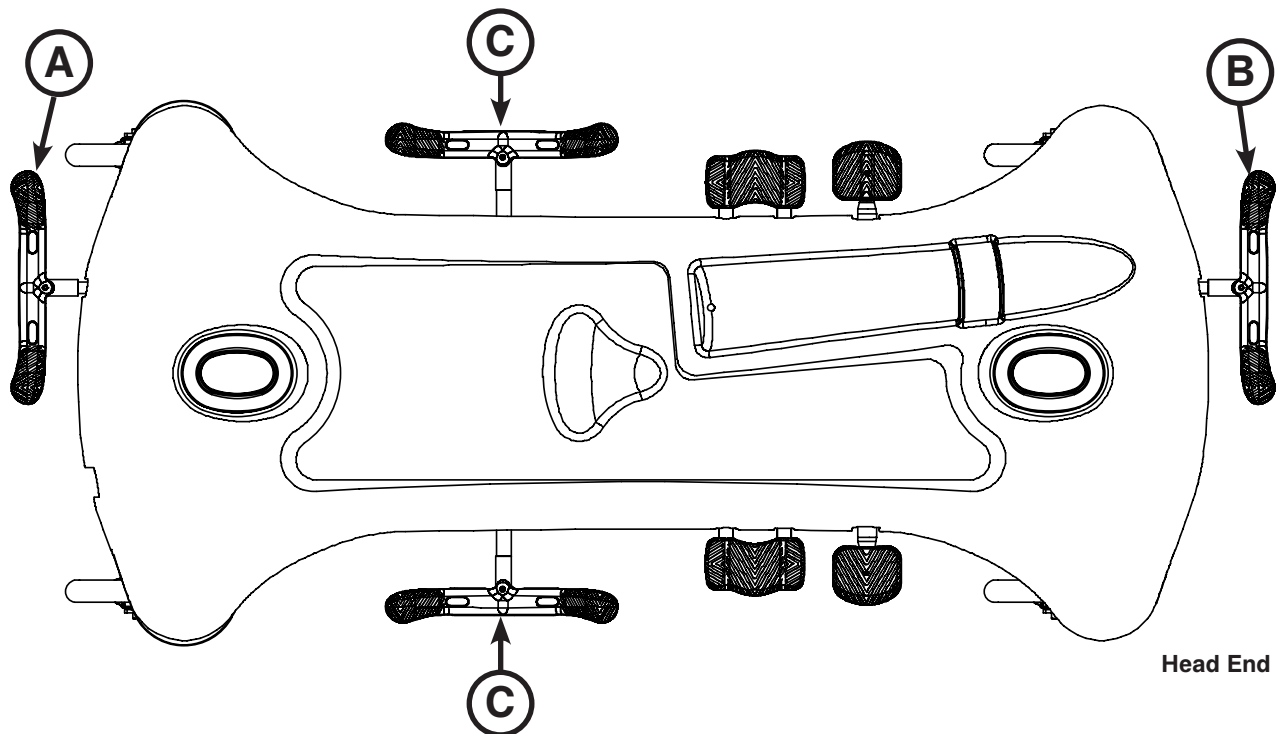

Figure 1: Brake System
For user convenience, a brake/steer control pedal is located on both ends of the stretcher as shown in Figure 1.
**To operate the fifth wheel**, push the steer (green) side of any brake/steer pedal to the lowest position (see Figure 1 on page 1-11).
**To disengage the fifth wheel**, push the brake (red) side of any brake/steer pedal to the neutral position (see Figure 1 on page 1-11).